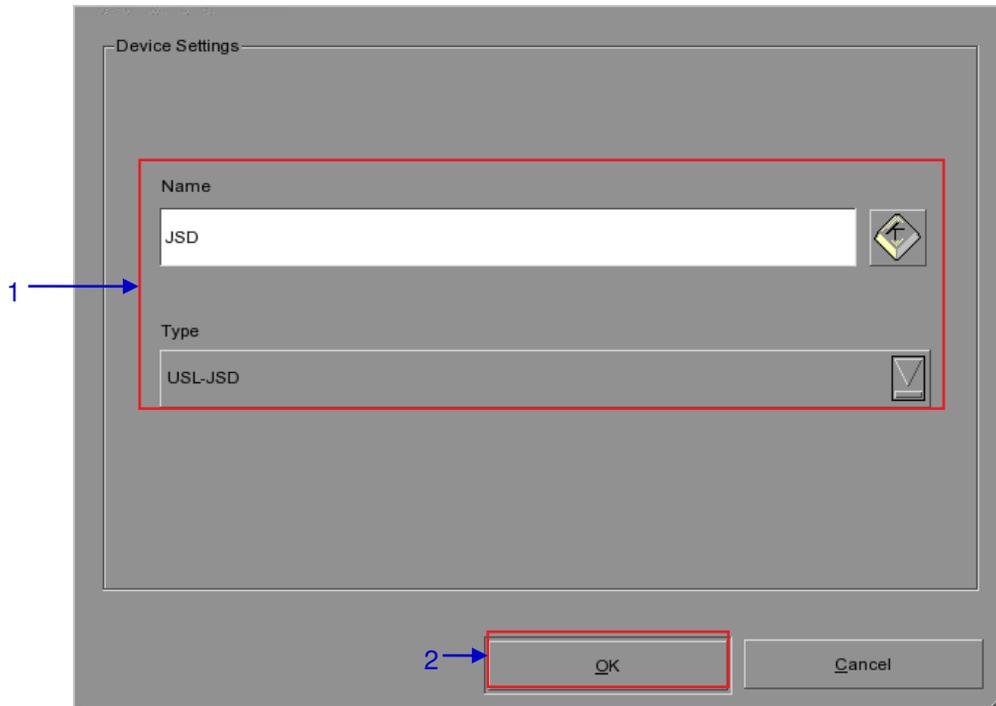

Figure 55 USL JSD automation device setup.
1. Click **[Add]** under **[Devices]** and enter the name of the device. In this case, it is **[JSD]**. Set the device type to **[USL-JSD]** (see Figure 55).